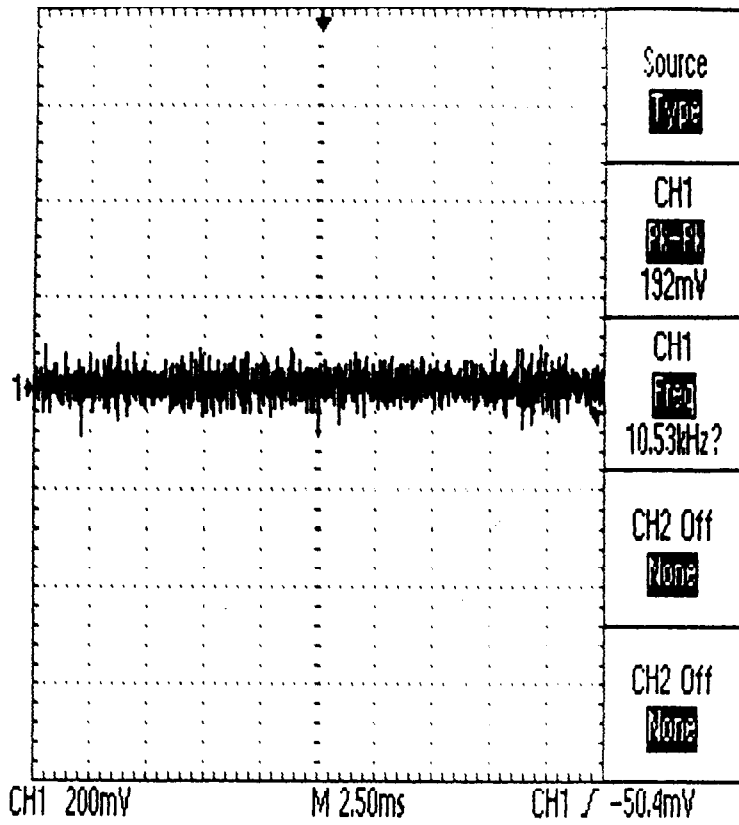

Figure 6
- iii Adjust VR1 (clockwise to increase, anti-clockwise to decrease) until amplitude of the noise signal reads 150mVp-p (figure 6).